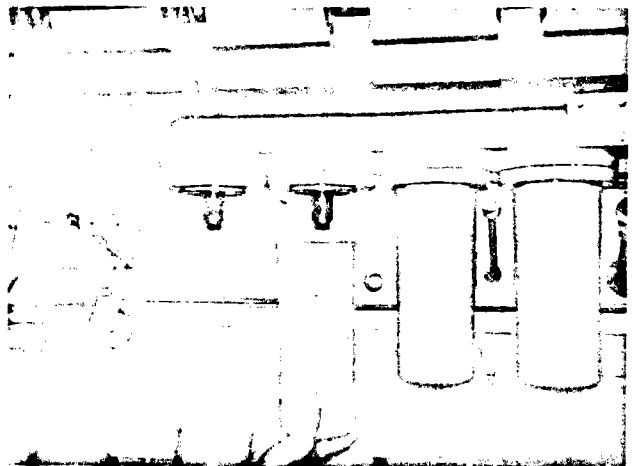

Fig. 2-16, (K21907). Installing "spin-on" lubricating oil filter — KT(A)-2300 Engine
3. Position element to the filter head, Fig. 2-16. Tighten by hand until the seal touches the filter head, tighten an additional one-half to three-fourths turn.